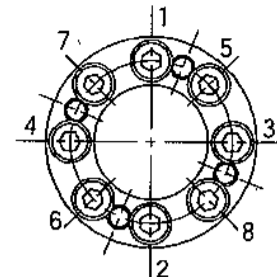

Fig. 5 Tightening sequence for bolts
3. Set a torque wrench to approximately 1/4 of the torque MA (refer to the table given below for torque MA) and tighten each of the tightening bolts evenly in the sequence shown in figure 5.